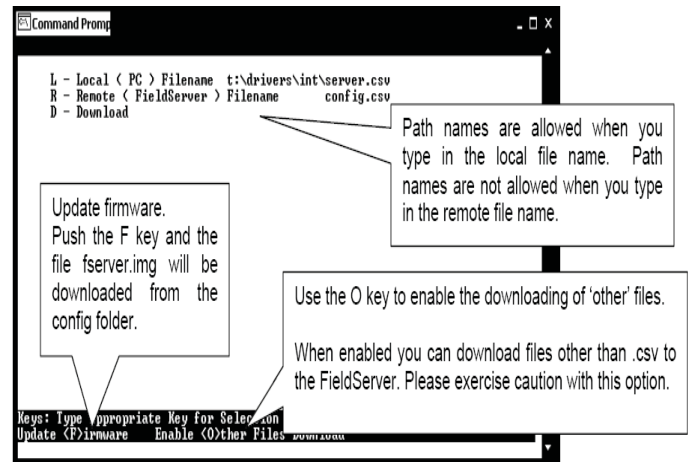

Figure 18: Download new Config.csv file
14.) At the next screen, (Figure 18), type <D> again.